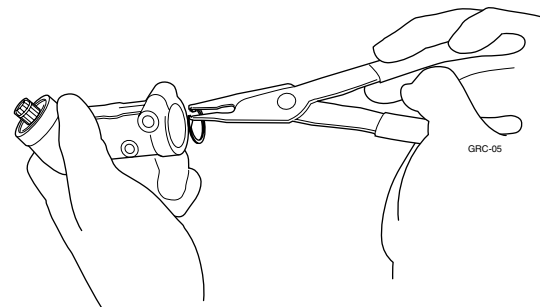

Figure 11.18 Remove the snap ring from the input end of the gearcase.
- Remove the cutting attachment and blade holders (same as for all models. Figure 11.18).
- Remove the internal snap ring from inside the input (driveshaft) end of the gearcase. Use snap ring pliers such as Snap-On® PR-23A or equivalent (Figure 11.18).